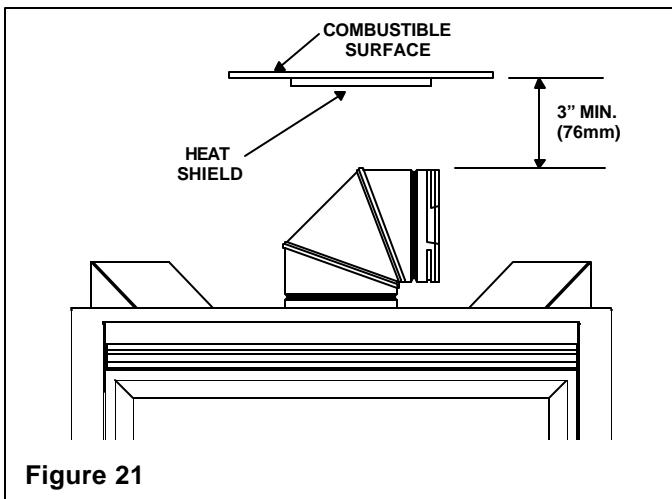

Figure 21
1. Determine if the heat shield is required. Do so by measuring the vertical distance between the top horizontal surface of the elbow to any combustible surface above. If the distance is more than 4 inches, the heat shield is **NOT** required. If it is 4 inches or less, the heat shield **IS REQUIRED**. Install per the following steps. See Figure 21.